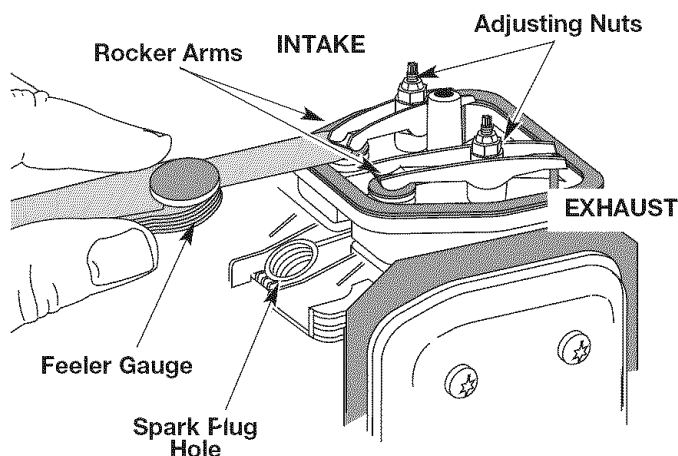

Fig. 33
- The piston is at the top of its travel while looking in the spark plug hole (Fig. 33)
The recommended clearance for both intake and exhaust is .003 – .006 in. (.076 – 0.152 mm). Use a standard automotive .005 in. (0.127 mm) feeler gauge. The feeler gauge should slide between the rocker arm and valve stem with a slight amount of resistance, without binding. See Figures 33 and 34.